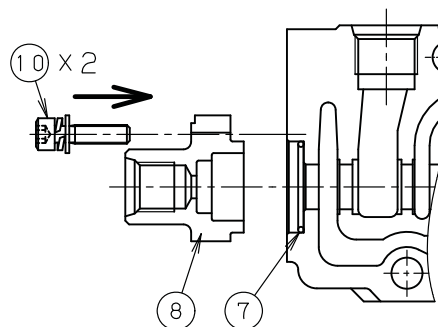

Fig.20 Pilot cover
■ Pilot cover (see Fig.20)
- ① Install O-ring (7) securely on the flange bottom of the body.
- ② Insert pilot cover (8) into the flange of the body.
- ③ Fasten 2 hex socket head bolts with washers (10) with specified torque with 4 mm hexagonal wrench.